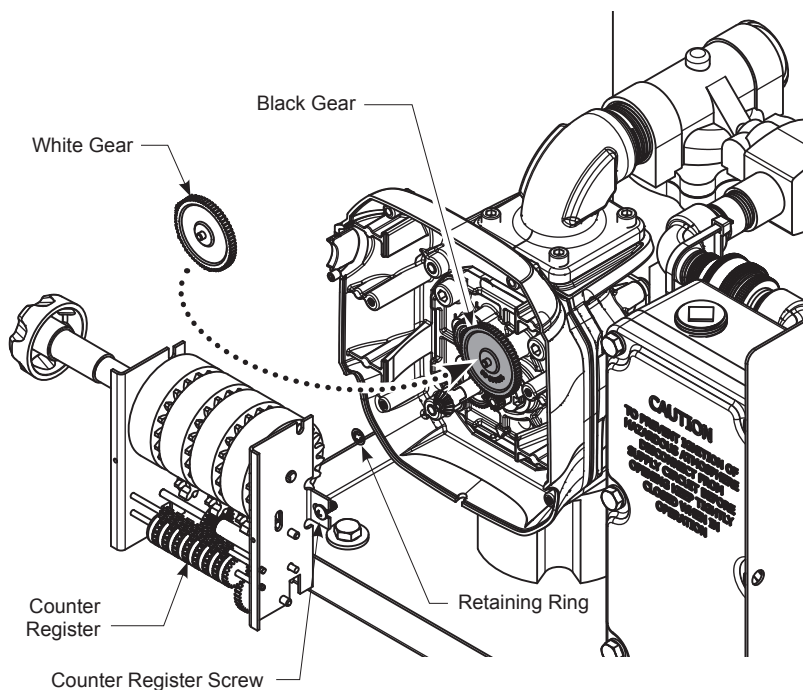

Figure 13
NOTE: The replacement gear is white for easy identification. Retain the black gear to change the meter back to a diesel calibration if needed (see Figure 13).
2. Using a Phillips screwdriver, remove the 2 counter register screws and counter register (see Figure 13).